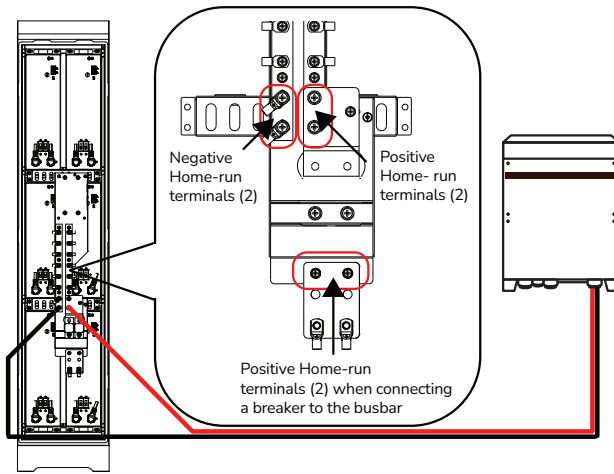

Figure 20. Wiring from Enclosure Busbar to Power Conversion Equipment
1. Turn off the power on the batteries, power conversion equipment, and peripherals. National electrical codes mandate the installation of inline DC protection in the positive cable for systems in Canada and the United States. This protection should consist of a DC breaker or other disconnect positioned near the terminal of the busbar. There is space available at the bottom of the DC busbar for installing two DC breakers (see Figure 20). Alternatively, DC fuses or breakers may be installed outside of the enclosure. However, local codes may impose restrictions on how far the protection can be located from the battery energy storage system.